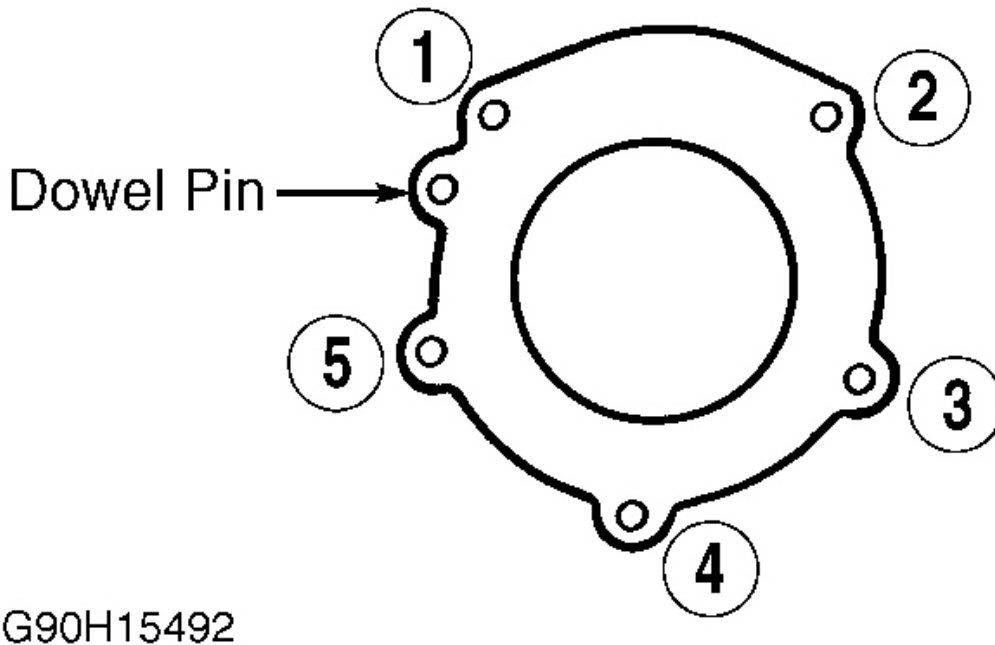

Fig. 2: B-W 1350 Extension Housing Tightening Sequence
2. Tighten transfer case-to-extension housing bolts in sequence to specifications. See **TORQUE SPECIFICATIONS (TRANSFER CASE)**. Also, see **Fig. 2**. Fill transfer case with 1.5 qts. (1.4L) of Mercon ATF (XT-2-QDX or EAZ-19582-B).
Install new transfer case-to-extension housing gasket. To complete installation, reverse removal procedure. Tighten transfer case-to-extension housing bolts in sequence and to specifications. Refer to **TORQUE SPECIFICATIONS (TRANSFER CASE)**. Also, see **Fig. 2**. Fill transfer case with 1.3 qts. (1.2L) of Mercon ATF (XT-2-QDX or EAZ-19582-B).
Install a new extension housing gasket. To complete installation, reverse removal procedure. Tighten extension housing bolts in sequence to specifications. See **Fig. 2**. Also, refer to **TORQUE SPECIFICATIONS (TRANSFER CASE)**. Fill transfer case with 2.0 qts. (1.9L) of Mercon ATF (XT-2-QDX or EAZ-19582-B).